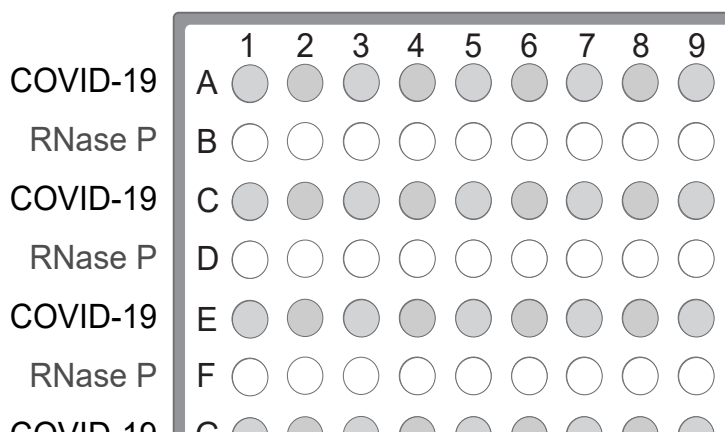

Figure 5 Assays in alternating plate rows
- a. Starting with row A, pipet 20.0 µL per well of the COVID-19 Reaction Mix into every other row of a MicroAmp™ Fast Optical 96-Well Reaction Plate with Barcode, 0.1 mL or a MicroAmp™ Optical 96-Well Reaction Plate with Barcode, 0.2 mL. See Figure 5 on page 57.